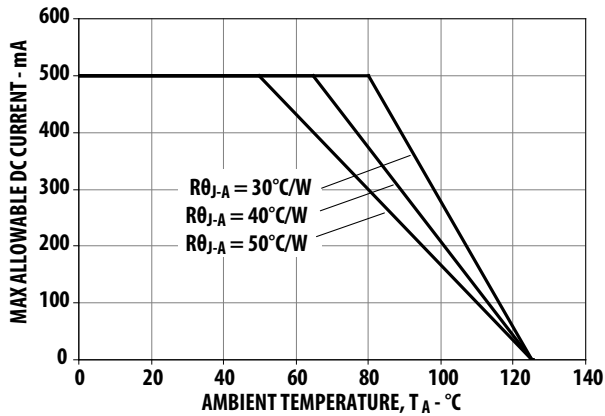

Figure 10. Maximum Forward Current vs. Ambient Temperature.
1. Derate linearly based on Figure 10 for AlInGaP and Figure 22 for InGaN.